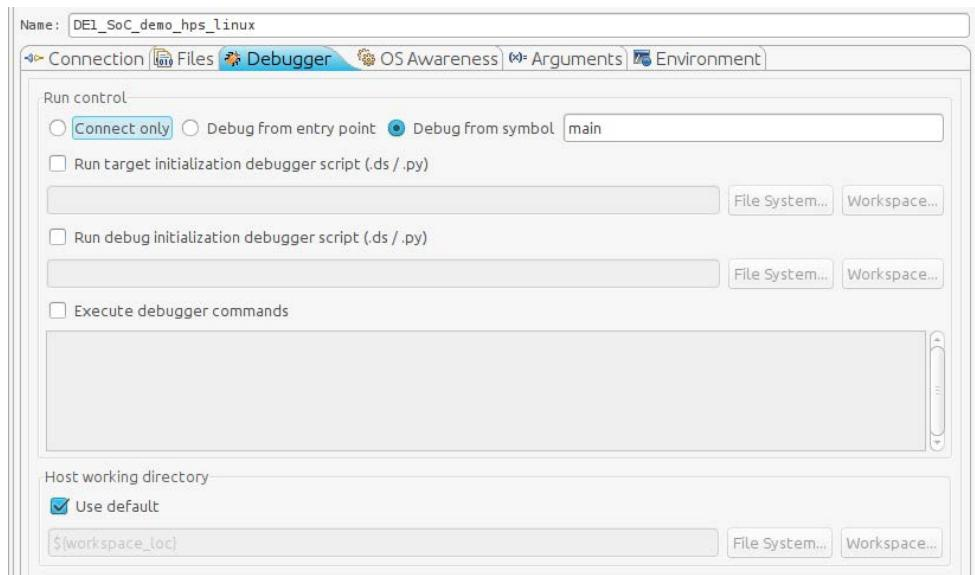

Figure 13-15. Debug Configuration "Debugger" Tab
- Under the "Debugger" tab, make sure that "Debug from symbol" is selected and that "main" is the name of the symbol, as shown in Figure 13-15.